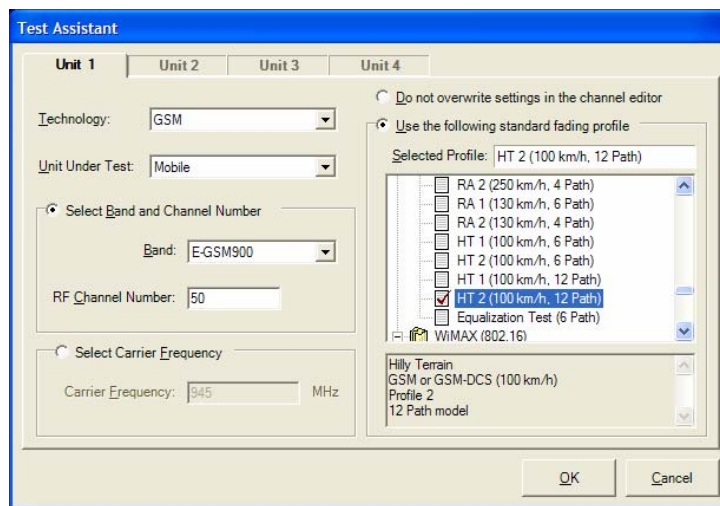

Figure 1-13: Test Assistant Window
6. Click the Test Assistant icon  located on the toolbar of SR5500 TestKit. The Test Assistant Window displays as shown in Figure 1-13.